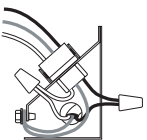

Figure 7
- Using proper wire connectors, wire the fan as shown in Figure 7.